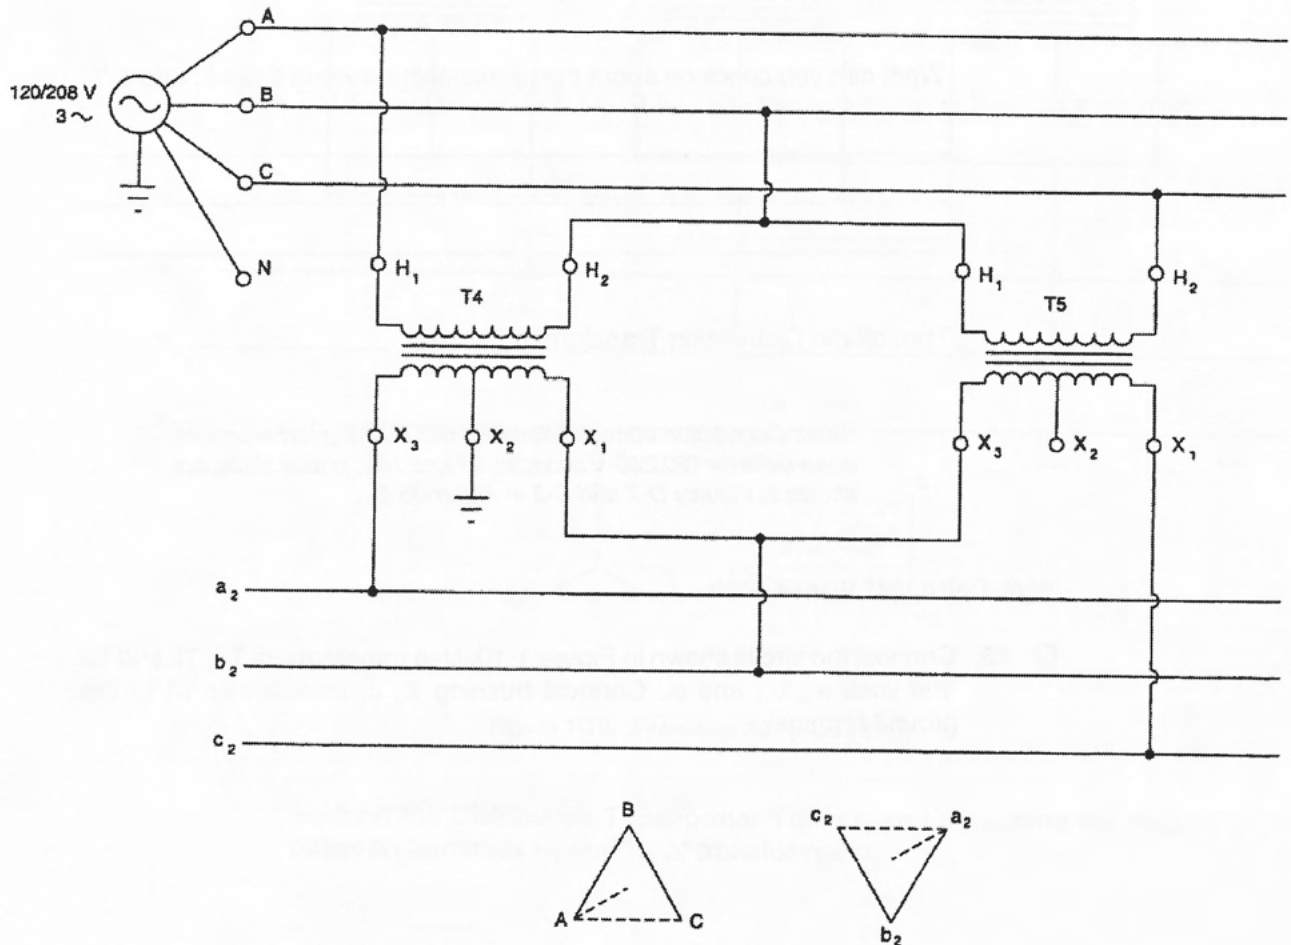

Figure 1-9. Open-delta, 180° phase shift.
- 12. Connect the circuit shown in Figure 1-9. Use transformers T4 and T5, and lines a_2 , b_2 , and c_2 . Connect bushing X_2 of transformer T4 to the ground terminal.